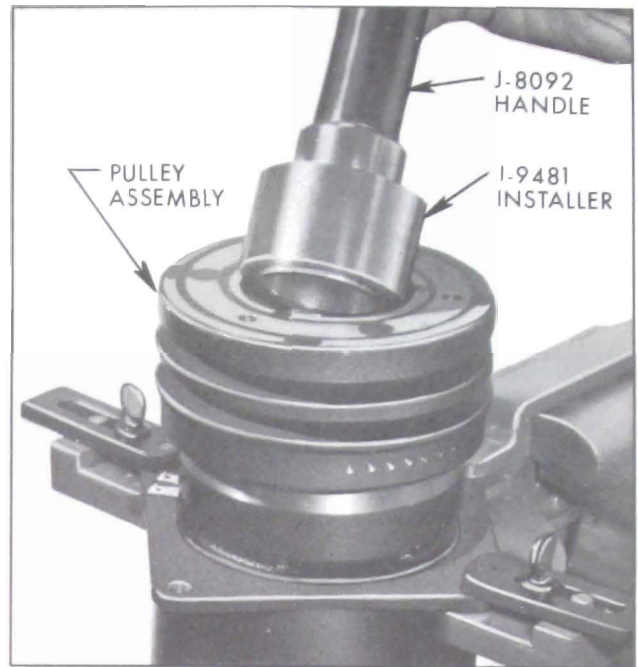

Figure 11-85—Installing Pulley Assembly
3. Support bottom of compressor and press or tap the pulley and bearing assembly on the neck of the compressor, using J-9481 installed on J-8092 as shown. See Figure 11-85. Pulley should rotate freely.